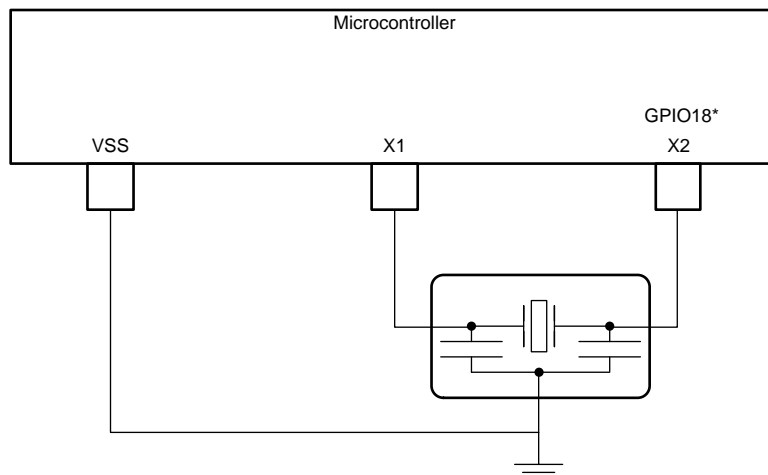

图 5-14. External Resonator
- An external resonator. The resonator should be connected across X1 and X2 with its ground connected to VSS as shown in 图 5-14.